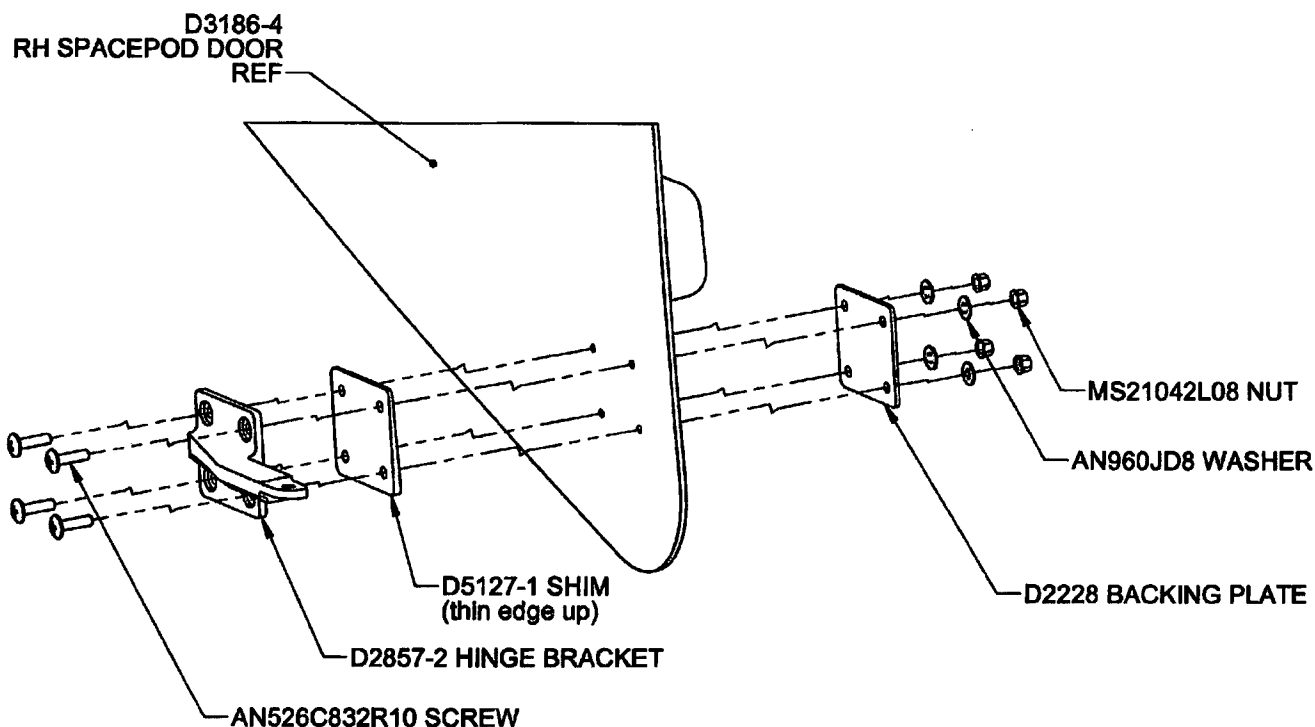

FIGURE 2: SPACEPOD DOOR HINGE INSTALLATION
- 2.6 Re-install the D2857-1/2 Hinge Brackets with the D5127-1 Shim between the Spacepod Door and Hinge Brackets, using the existing mounting holes and fasteners. See Figure 2. The hinge brackets should be installed as shown in Table 2. Shims can be re-oriented, as required, to provide the best mounting configuration. Furthermore, due to normal variations in the Spacepod geometry, additional shimming may be required. It is acceptable to use Hysol Liquid Shim, thin washers or shims fabricated from 6061-T6 aluminum for this purpose.